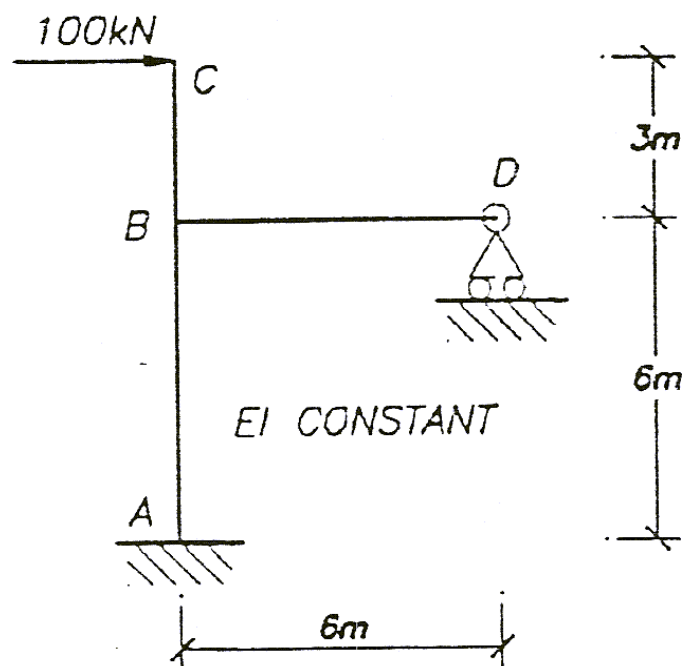

FIG Q4
4. Use the *Moment-area method (Mohr's Theorems)* to determine, for the frame shown in Fig. Q4.